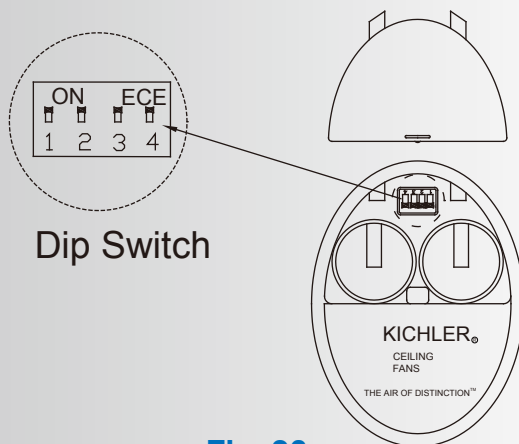

Fig. 26
Step 3. You can leave the frequency switches at the factory setting or move them to any combination of up or down. Use a small flat bladed screwdriver to move the switches. (Fig. 26)